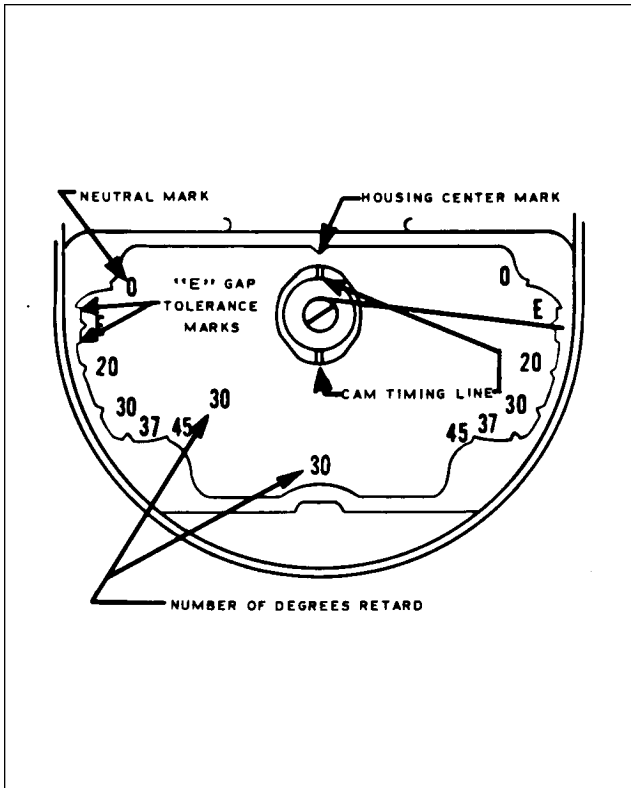

Figure 8-15. Cast-in Timing Marks
- b. The internal timing can be checked without a timing kit using the cast in marks in the breaker compartment. These marks indicate "E" gap and limits (refer to Figure 8-15). The point in the center of the "E" gap boss indicates the exact "E" gap position. The width of the boss on either side of the point is the allowable tolerance of  $\pm 4^\circ$ . In addition to these marks, the cam has an indented line across its end. When the indented line is aligned with the mark at the top of the breaker housing, the rotating magnet is in its "E" gap position. Check the timing using the following procedure:
2. Turn rotating magnet in direction of rotation until painted chamfered tooth of distributor gear is just becoming visible in timing window. Continue turning rotating magnet until line on end of cam is aligned with mark at top of breaker housing. (Refer to Figure 8-15.) Tighten adjusting knob of the holding tool to hold rotating magnet.